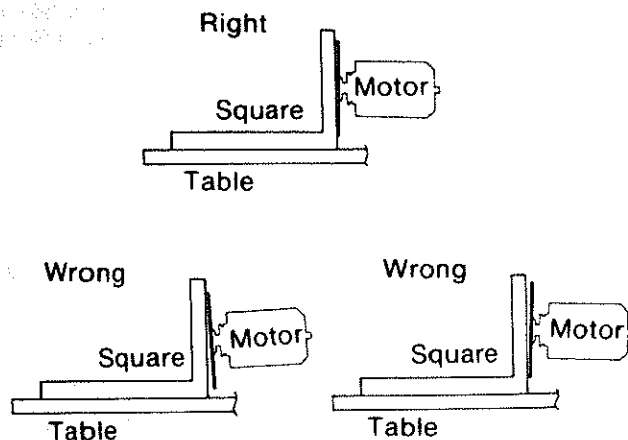

Fig. 57
5. If the square is flush with the *blade* after each rotation, no change is needed. (Figure 57) Go to the next section, or
If there is a gap between the square and the *blade* after any rotation (Figure 57), go to step 6.